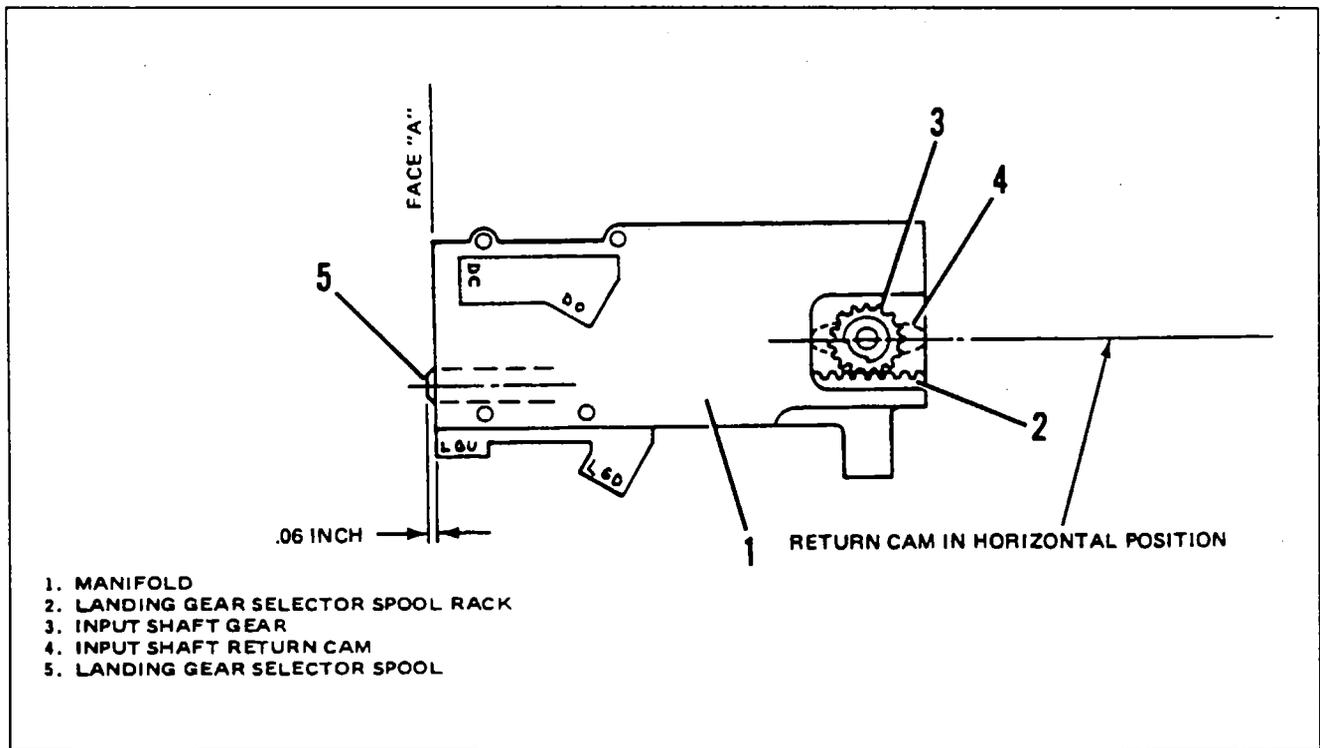

Figure 29-10. Indexing of Selector Spool - Wiebel
*When mating the manifold with the Power Pack body, index the landing gear selector spool rack with the input shaft gear as shown in Figure 29-10. With landing gear selector spool protruding .06 inches from face "A" of manifold and the input shaft return cam in the horizontal position tooth of input shaft gear will match with tooth space in the landing gear selector spool rack.*